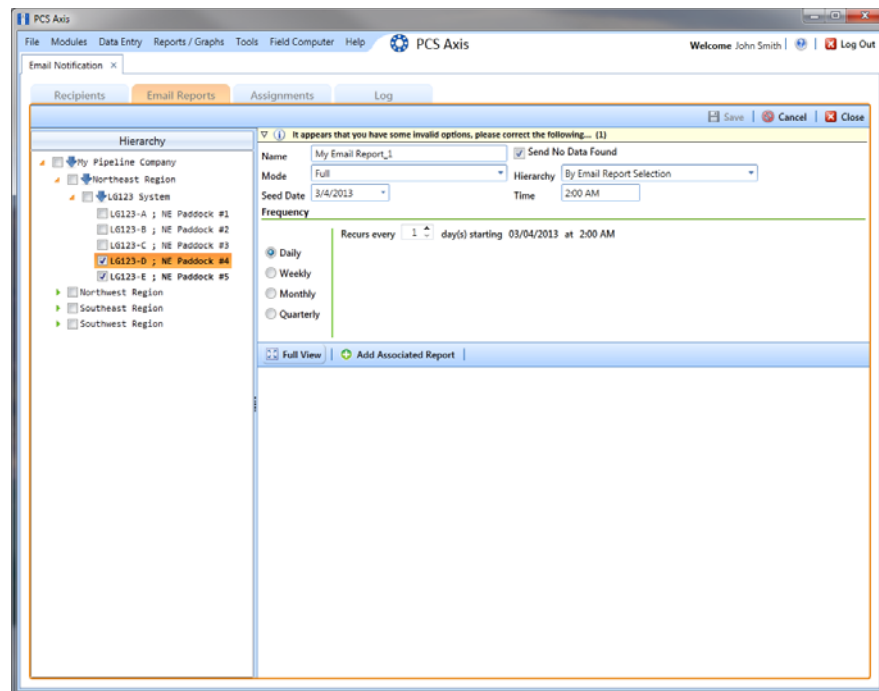

Figure 11-8. Email Reports
- a Click the toggle arrow  in the *Hierarchy* panel to view a list of pipeline segments in the hierarchy (Figure 11-8).